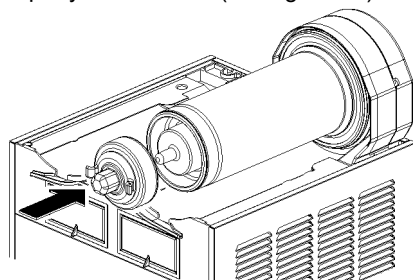

figure 14
- 5 Insert the magnetic outside rotor in the evaporator taking care to accompany it to the end (see figure 14).